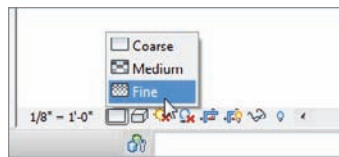

FIGURE 3.41 On the View Control bar, set Fine as the detail level.
11. On the View Control bar, select Fine for the detail level, as shown in Figure 3.41. (Making adjustments like this to a view will become second nature to you very soon.)